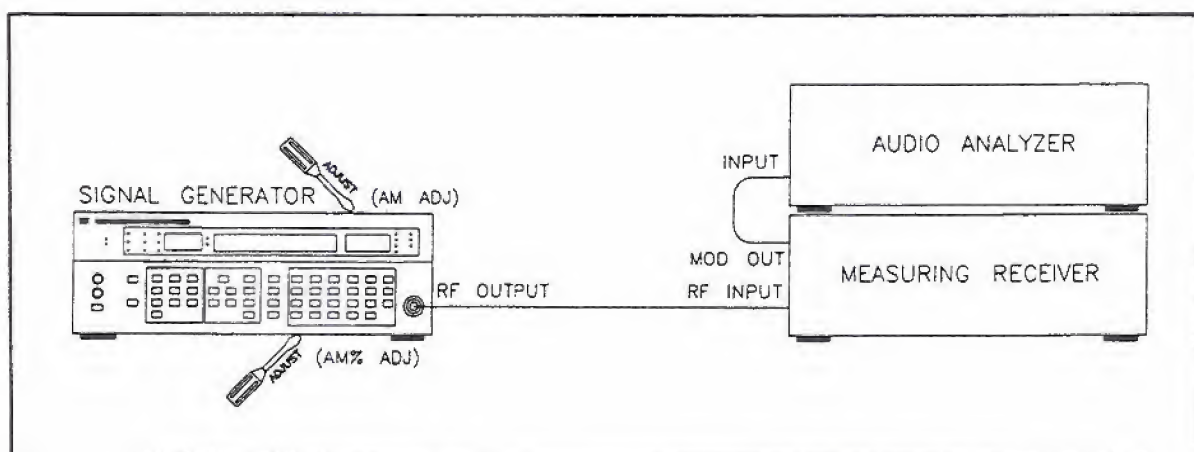

Figure 5-25. AM% and ALC Loop AM Adjustments Setup
3. Connect the measuring receiver to the RF OUTPUT connector on the Signal Generator and connect the distortion analyzer as shown in Figure 5-25.